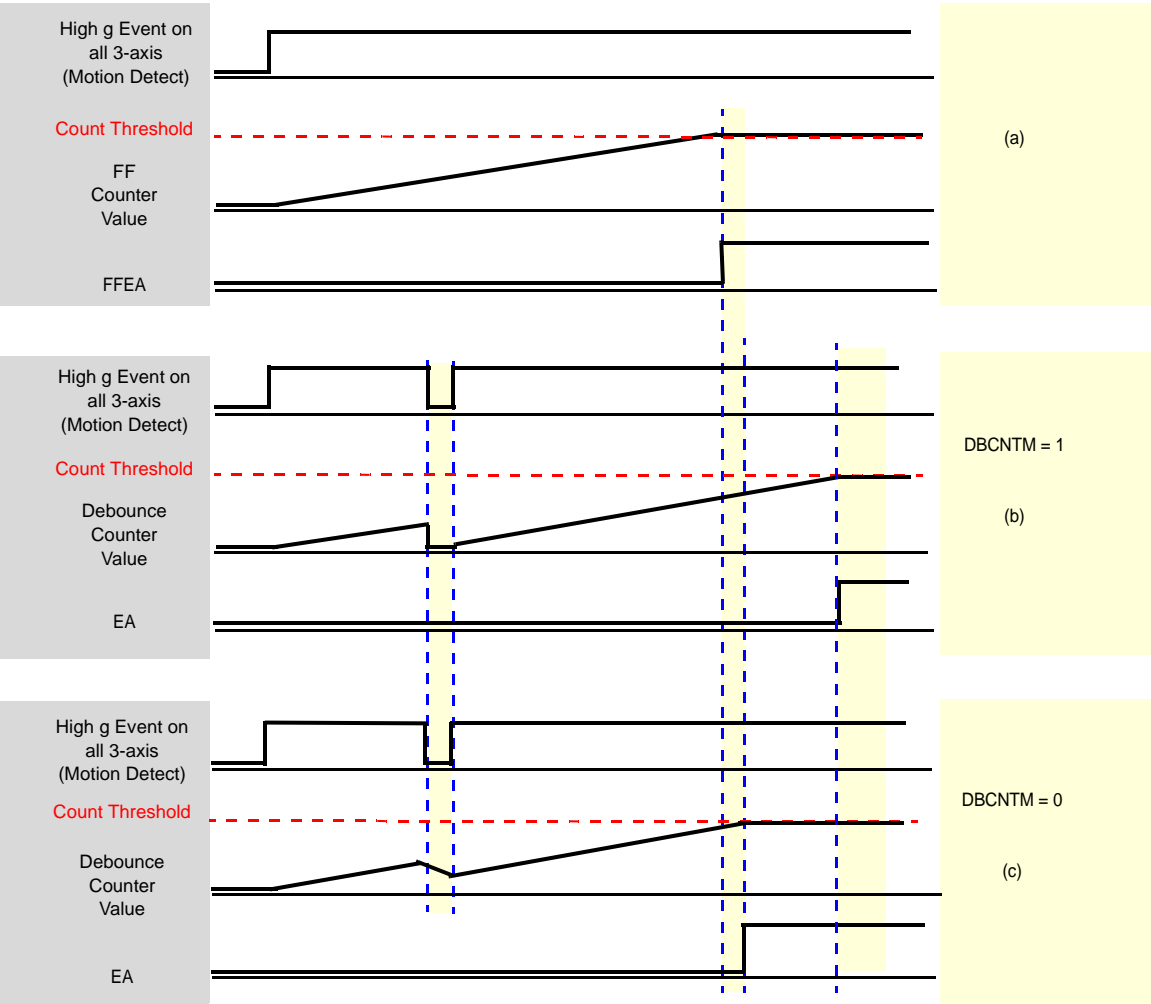

Figure 15. DBCNTM bit function
- When the DBCNTM bit is 1**, the debounce counter is cleared to 0 whenever the inertial event of interest is no longer true as shown in Figure 15, (b).
- While the DBCNTM bit is set to 0**, the debounce counter is decremented by 1 whenever the inertial event of interest is no longer true (Figure 15, (c)) until the debounce counter reaches 0 or until the inertial event of interest becomes active.